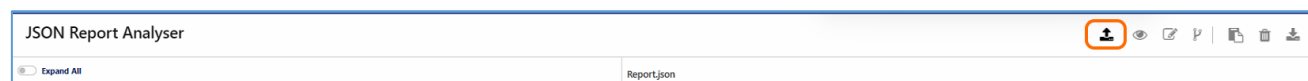

FIGURE 8.109: UPLOAD JSON REPORT ICON
1. Click on the Upload icon  at the top right of the *JSON Report Analyzer* screen as shown in Figure 8.109 below.